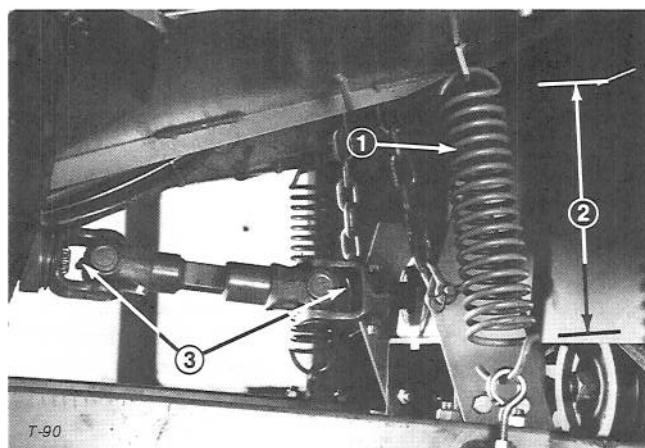

Figure 17
4. Adjust spring tension so springs are extended approximately one inch when snowthrower is in the maximum raised position (Fig. 17).
4. Grease the two fittings in the P.T.O. drive shaft every 10 hours with No. 2 general purpose Lithium base grease (Fig. 17).